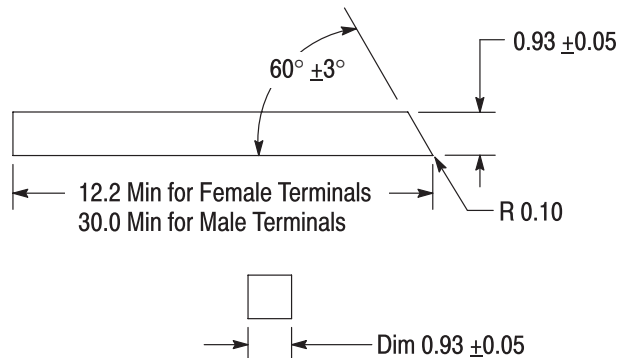

Figure 7
The locking lance of the contact must be released from the contact cavity before the contact can be removed from the socket connector. A suitable tool, (see Figure 7), must be inserted into the corresponding contact removal window to release the contact locking lance, and the wire must be pulled *gently* to remove the contact from the socket connector.
1. Insert contact removal tool (as detailed in Figure 7) or a jewelers/flat-bladed screwdriver (1.0 mm width) into the selected exposed contact cavity, as shown in Figure 8A.